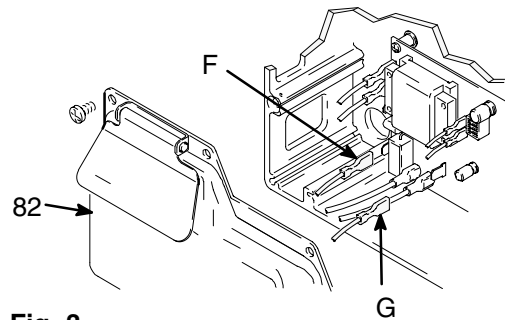

Fig. 3
3. Fig. 3. Remove pressure control cover (82). Disconnect motor leads (F) and (G).